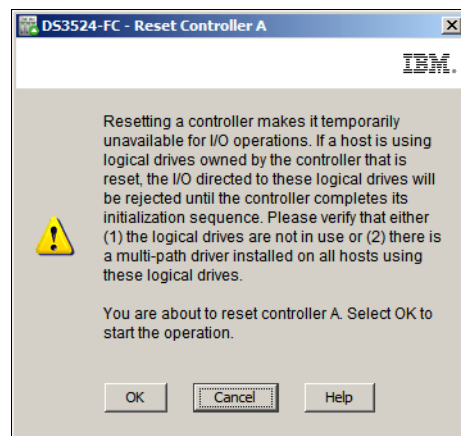

Figure 14-139 Confirm Reset Controller
2. The window shown in Figure 14-139 will be displayed. Read the information and click the **Yes** button to reset the selected controller.